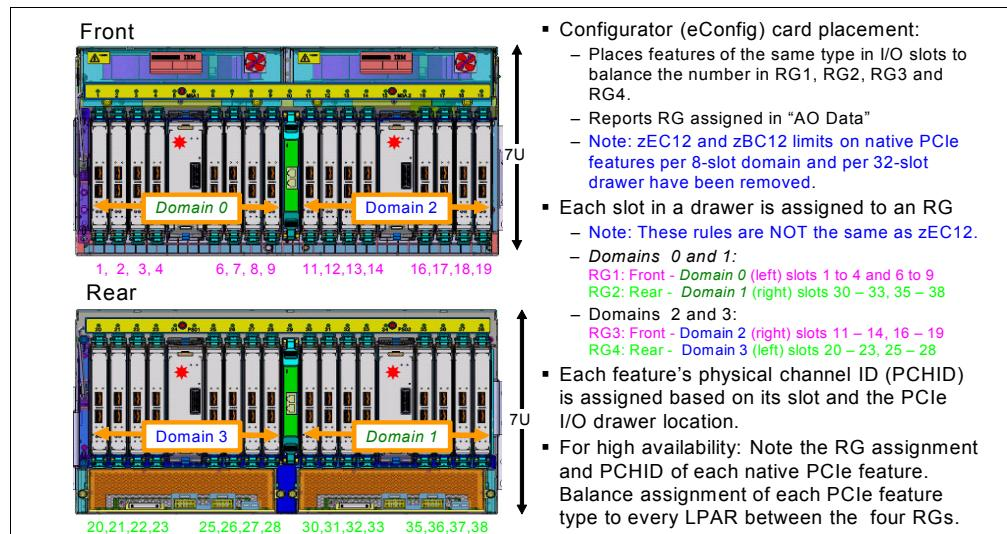

Figure 2-4 Relationship among PCIe I/O drawer slots, domains, and RGs in the z14
The native PCIe feature support is provided by Resource Group (RG) code running on the integrated firmware processor (IFP). For resilience, there are always four independent RGs on the system that share the IFP. For high availability purposes, always use at least two PCIe features located in different RGs as shown in Figure 2-4.